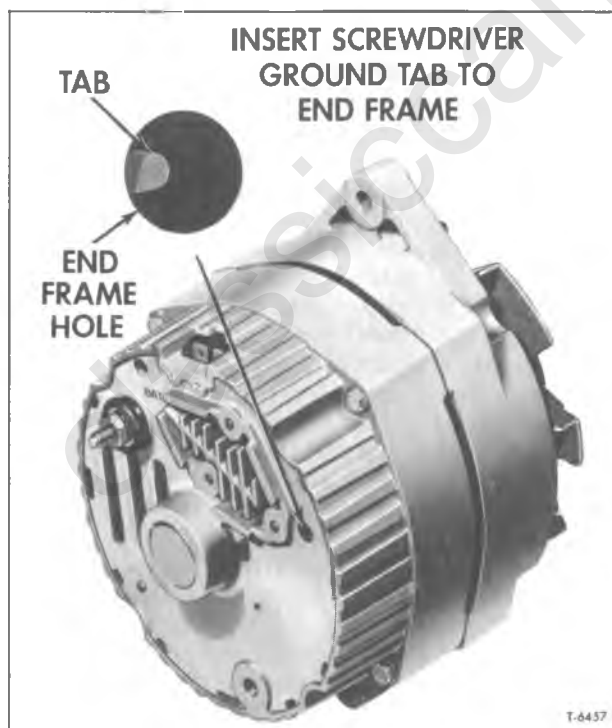

Figure 4—End View of 42- or 61-Amp. Integral Type Generator (Typical)
- b. If reading is less than 12.8 volts, ground field winding by inserting a screwdriver into the test hole in the end frame (fig. 4).
7. If output is not within ten per cent of rated output, ground the generator field (fig. 4).